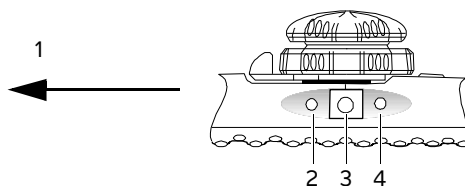

Figure 2-7 Scan plane rotation controls
The scan plane rotation is driven by a motor in the transducer handle and is controlled by buttons on the handle (see Figure 2-7).
Press the biplane button (the center button) on the endoscope handle. See Figure 2-7 on page 2-10.
- 3 Press the scan plane control buttons on the handle to rotate the scan plane counterclockwise (0° to 180°) and clockwise (180° to 0°). See Figure 2-7 on page 2-10.